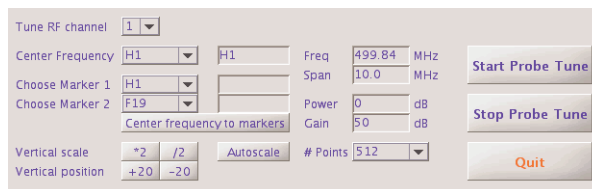

Figure 6. Manual Tuning Panel
4. Select **Start Probe Tune** on the mtnet panel see Figure 6.